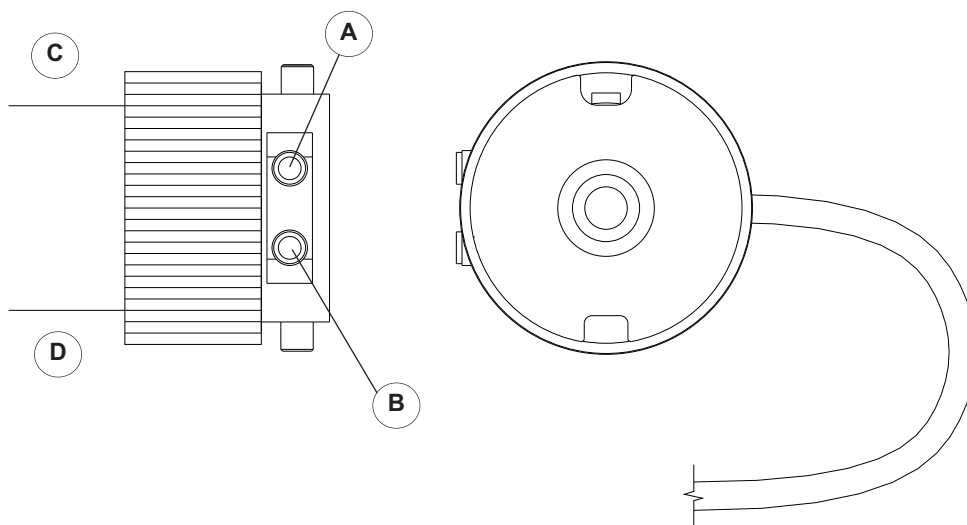

Figure 10.1
3. Activate the switch so the door fully opens. If the door stops short or over travels, adjust the open limit switch, Figure 10.1 & 10.2.
6. For adjustment of limit switches, refer to steps in Adjusting Motor Limits and Figures 10.1 & 10.2.